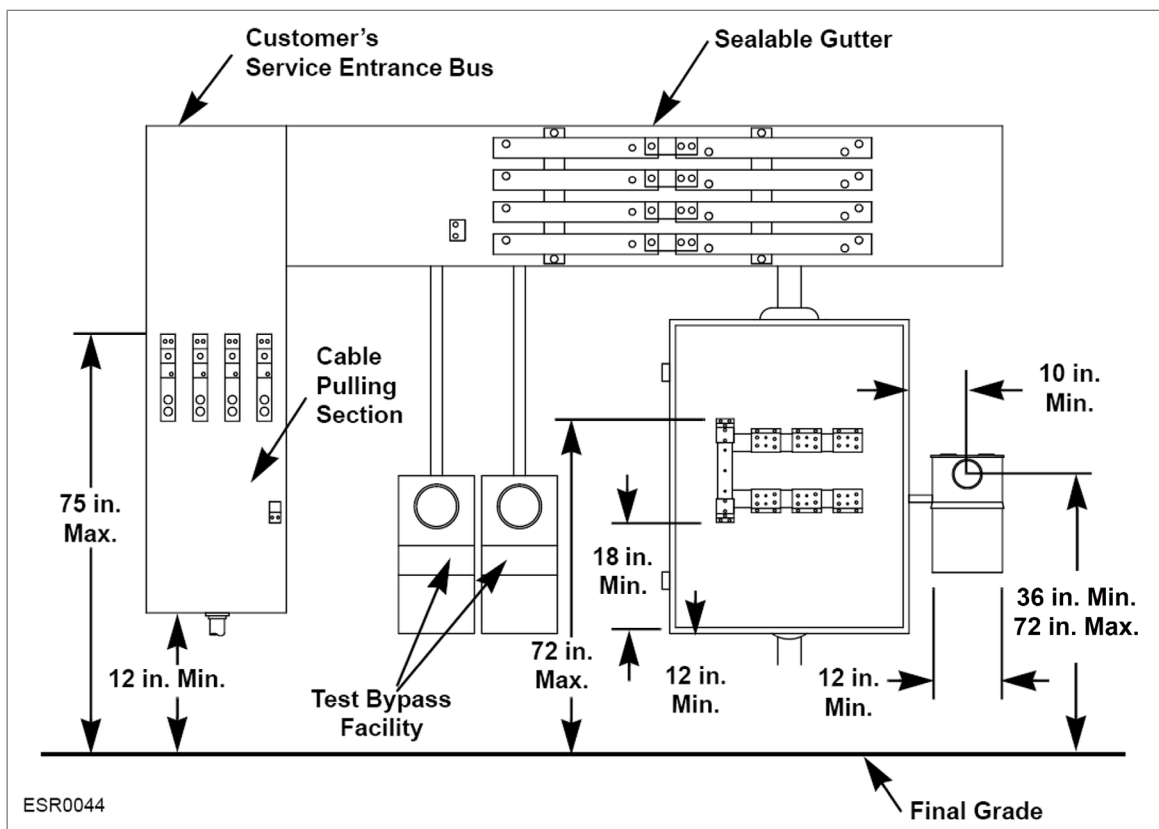
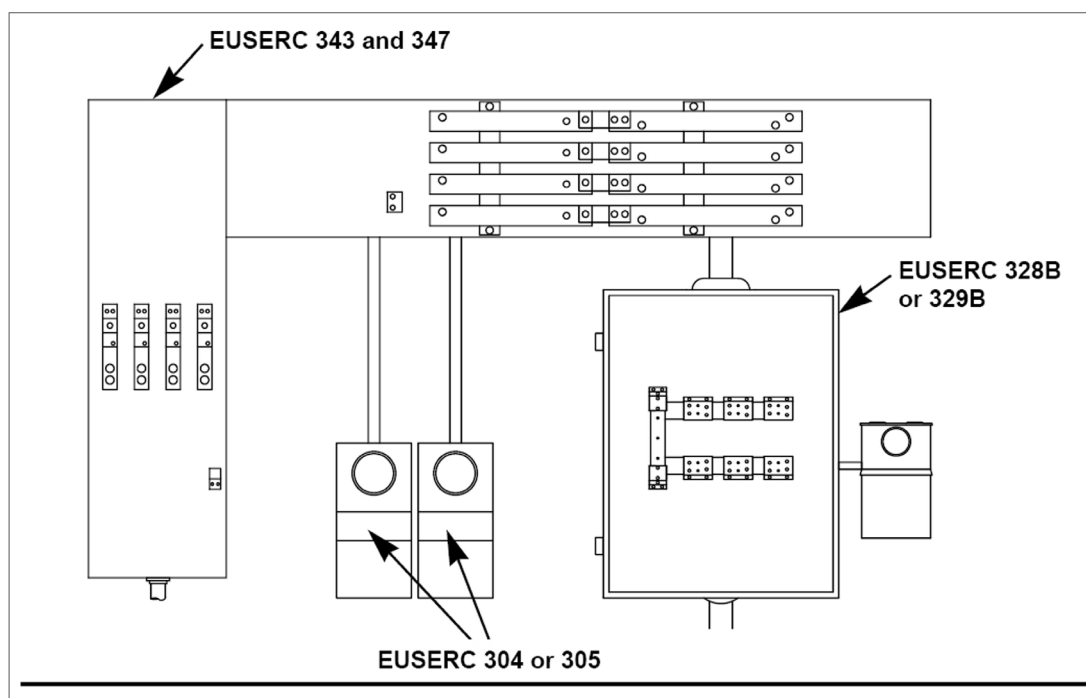

Figure 77: Combination Current Transformer/Direct-Connect, Wall-Mount Metering, 0 to 800 A
Figure 78: EUSERC Identifications for Combination Current Transformer/Direct-Connect, Wall-Mount Metering, 0 to 800 A
Figure 77 shows a combination current transformer (CT)/direct-connect wall-mount metering, 0 to 800 A. **Figure 78** shows the EUSERC identification for this equipment.